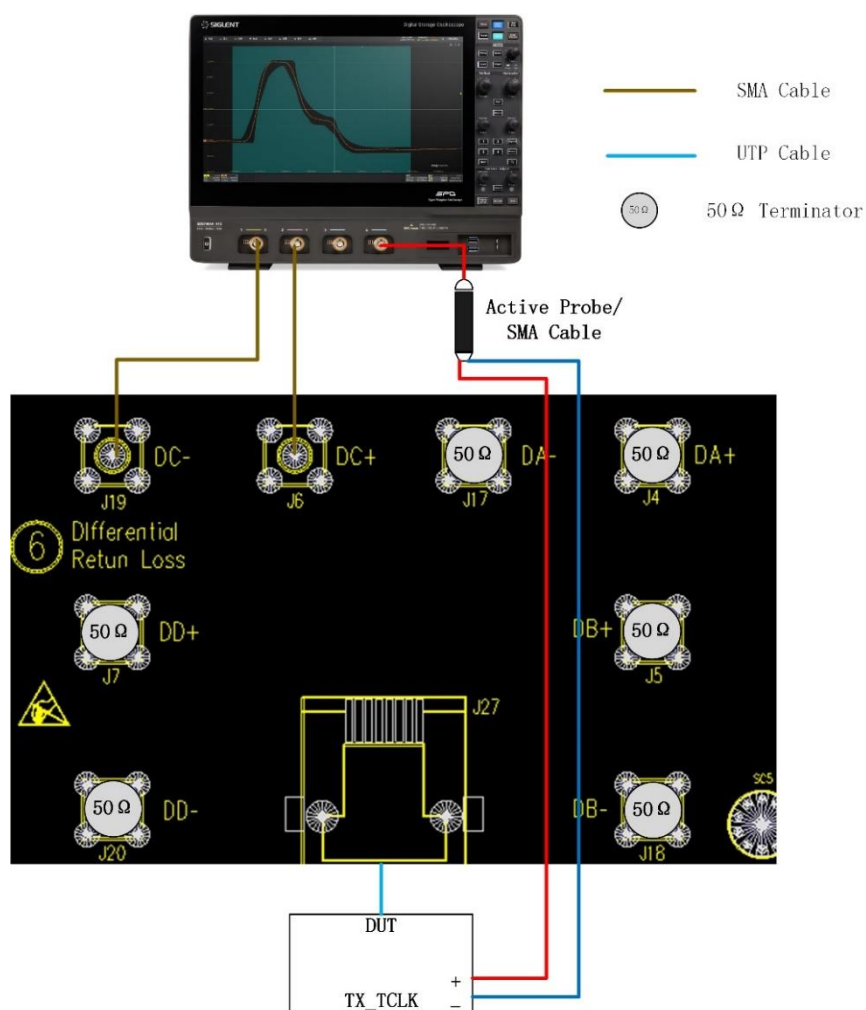

Figure 9-2 Transmitter distortion tests with TX\_TCLK and without disturber by using Section ⑥ on the test fixture
The connection with section ⑥ on the test fixture is shown as Figure 9-2, the test step is as follows:
- (1) Using a short UTP cable to connect the DUT to the J27 connector on section ⑥ of the test fixture.
- (2) According to the pair being tested, using two SMA cables with equal length to connect the corresponding test points {DA(J17,J4), DB(J5, J18), DC(J6, J19), DD(J7, J20)} on section ⑥ of test fixture to two input channels of the oscilloscope.
- (3) Connect other unused test points on section ⑥ of the test fixture to 50Ω terminators.
- (4) Connect the DUT's TX\_TCLK to one input channel of the oscilloscope by using an active probe or a SMA cable.